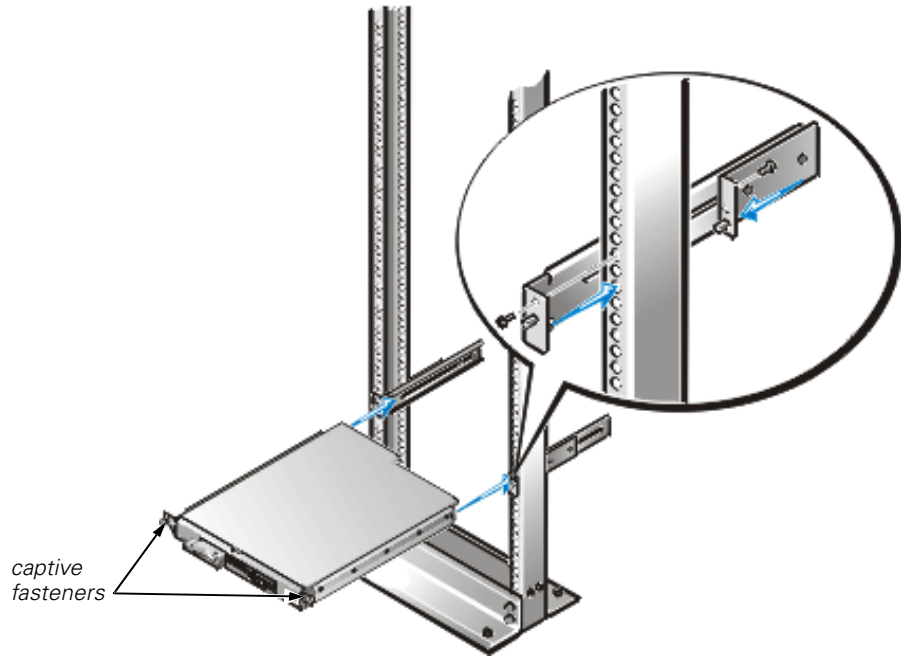

Figure 1-8. Securing the System in the Rack
3. Move the system back with its inside rail engaging the mounting bracket. Slide the system completely into position and secure it to the rack using the captive fasteners at the outer edge of the front panel (see Figure 1-8).